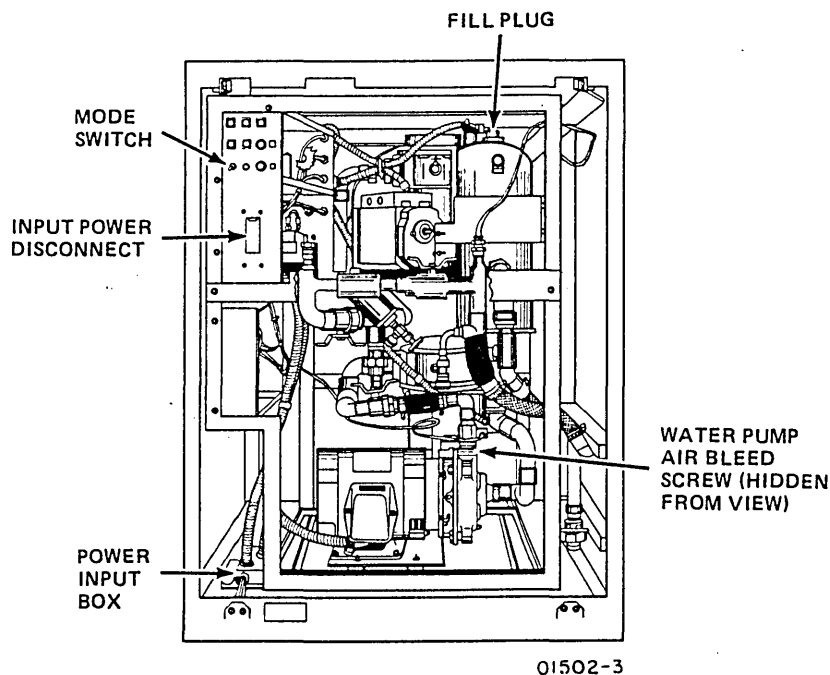

Figure 3-21. Pump Rotation Check on 102-L/min (27-gal/min) Unit
- ___ 1. Set INPUT POWER DISCONNECT circuit breaker on water cooling unit (figure 3-21) to OFF.